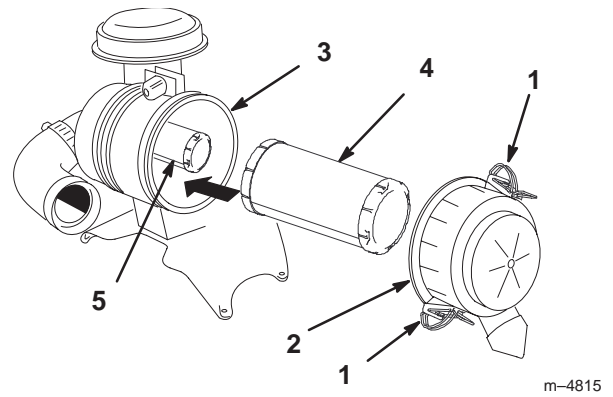

Figure 30
2. Release the latches on the air cleaner and pull the air cleaner cover off of the air cleaner body (Fig. 30).
4. Gently slide the primary filter out of the air cleaner body (Fig. 30). Avoid knocking the filter into the side of the body. Do not remove the safety filter, unless you intend to replace it as well.
2. If the safety filter is being replaced, carefully slide it into the filter body (Fig. 30).
3. Carefully slide the primary filter over the safety filter (Fig. 30). Ensure that it is fully seated by pushing on the outer rim of the filter while installing it.
4. Install the air cleaner cover with the side indicated as **UP** facing up and secure the latches (Fig. 30).